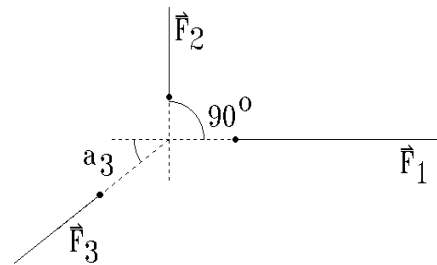

Figure 5 Procedure 1.a) setup.
a) Move the weights so that the angle between forces F_1 and F_2 is 90° (see figure 5). On a paper (as large as .3 by .3 m, if possible) draw lines parallel to its edges and intersecting near its center. These lines will act as the X and Y axes, described in the Physical Principles section. Position the paper so that the origin of the axes is right under the small washer, with the forces F_1 and F_2 along the two lines. Tape the sheet of paper to the table. Use a pencil to mark